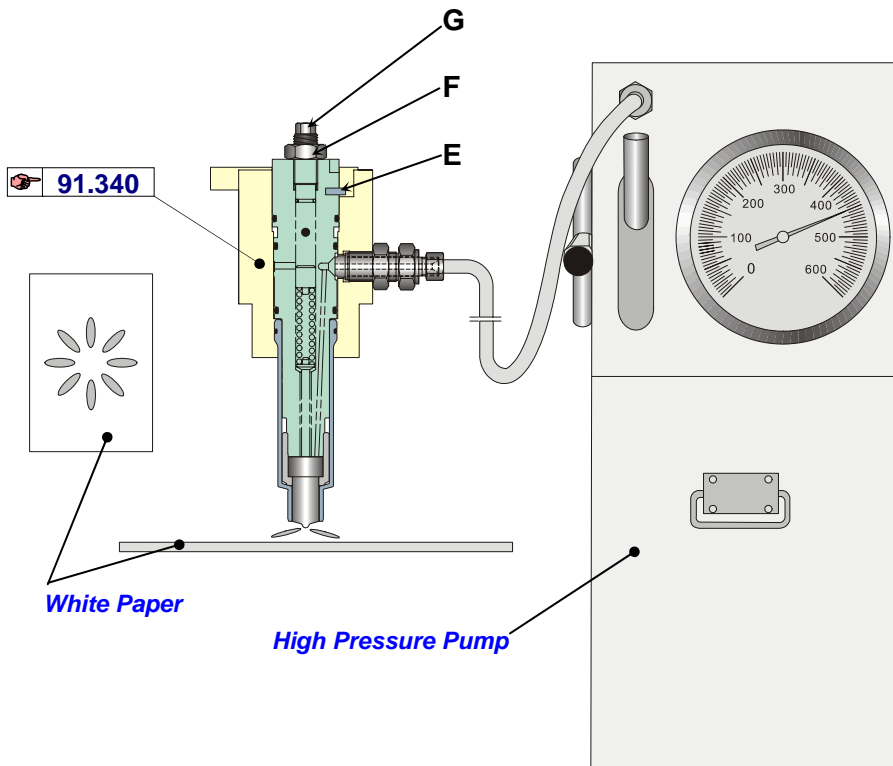

Fig.2 Functional test of fuel injection valve (연료 분사 밸브의 기능 시험)
1. Mount the fuel injection valve on the testing device as shown in fig 2.